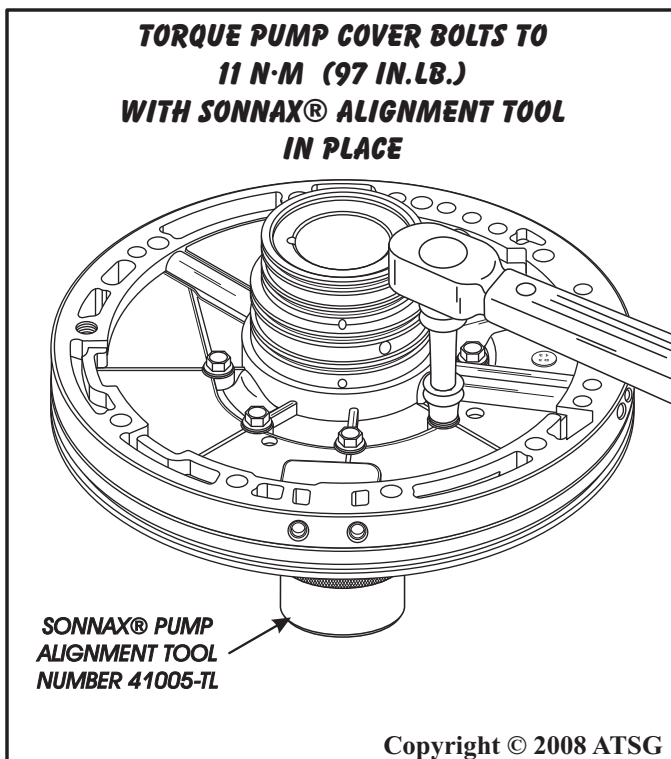

Figure 84
14. Install the oil pump alignment tool, as shown in Figure 84, and now torque the 7 retaining bolts to 11 N•m (97 in.lb.), with the Sonnax® alignment tool in place.